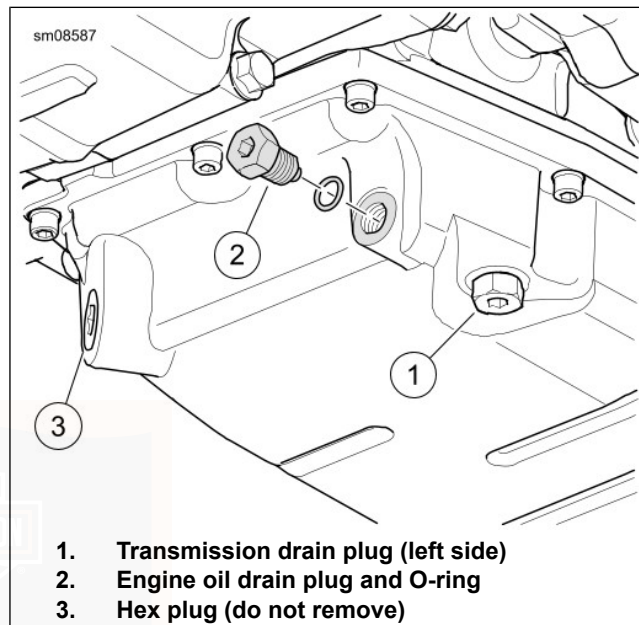

Figure 62. Oil Pan
3. See Figure 62. Remove the oil drain plug (2) and O-ring. Allow oil to drain completely.